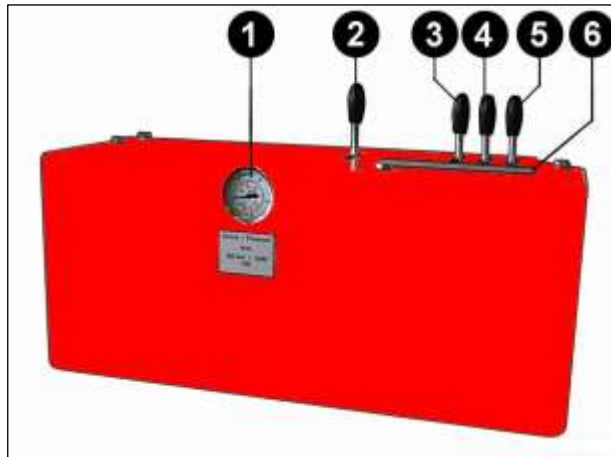

Bild 11 Control panel
- Pressure gauge** The pressure gauge (Bild 11/1) shows the current operating pressure.
- Lever** The lever (Bild 11/2) is used to move the inner heating plate.
The lever (Bild 11/3) is used to close or open the clamping unit.
The levers (Bild 11/4 and 5) are used to tilt/incline, lift and lower the main cross-piece.